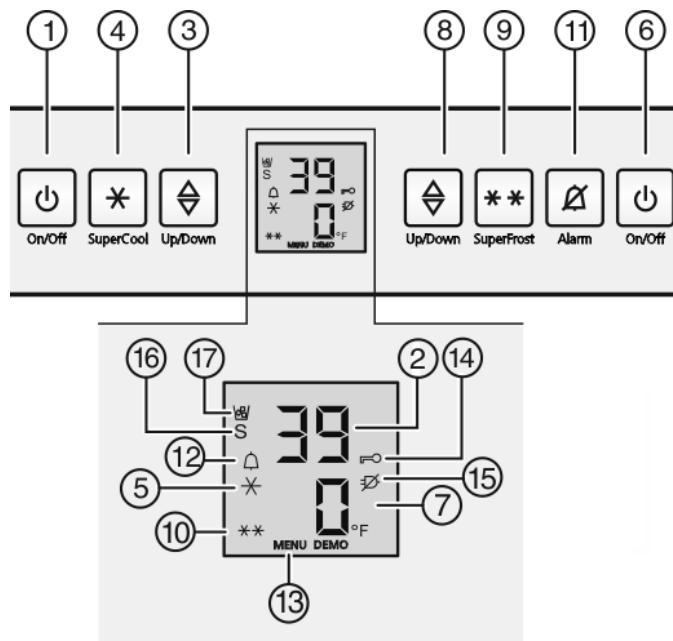

Fig. 3
- Press the Freezer compartment On/Off button Fig. 3 (6).
- Press the Fridge compartment On/Off button Fig. 3 (1)
- Activate setting mode: Press SuperFrost button Fig. 3 (9) for about 5 seconds.
- The Menu symbol Fig. 3 (13) lights up.
- Use the Set freezer compartment button Fig. 3 (8) to select °.
- To confirm: Briefly press SuperFrost button Fig. 3 (9).
- Select °F oder °C with the Freezer compartment set button Fig. 3 (8).
- To exit setting mode: Press Freezer compartment On/Off button Fig. 3 (6).
- To activate setting mode: Press and hold the SuperFrost button Fig. 3 (9) for approx. 5 seconds.
- In the display, the Menu Symbol Fig. 3 (13) is displayed.
- Use the Set freezer compartment button Fig. 3 (8) to select c.
- Confirm briefly by pressing the SuperFrost button Fig. 3 (9).
- The Child Safety symbol Fig. 3 (14) lights up on the display.
- Press the freezer compartment On/Off button Fig. 3 (6) briefly.
- Press Alarm button Fig. 3 (11).
At the same time, the Alarm symbol Fig. 3 (12) will flash.